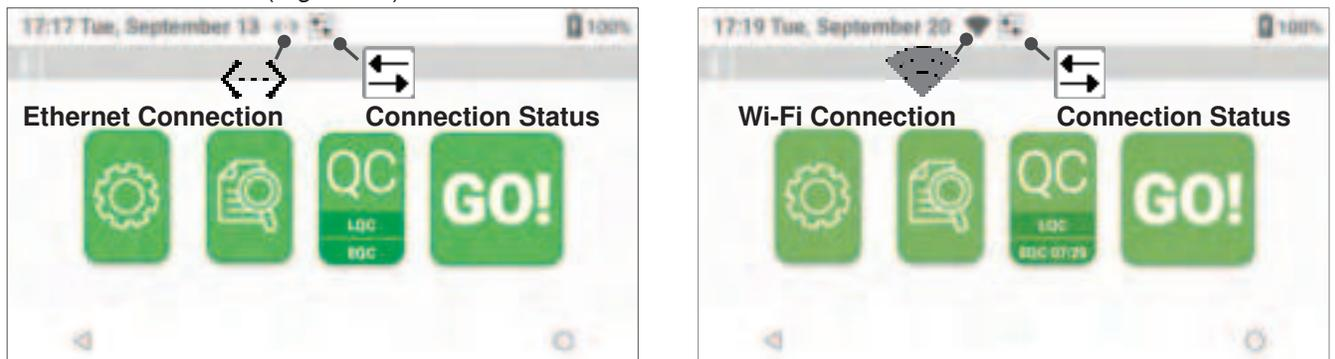

Figure 26: Network Connection Type and Status Icons
- If the instrument is connected to the network, the connection type (Ethernet or Wi-Fi) will be displayed in the status bar (*Figure 26*).